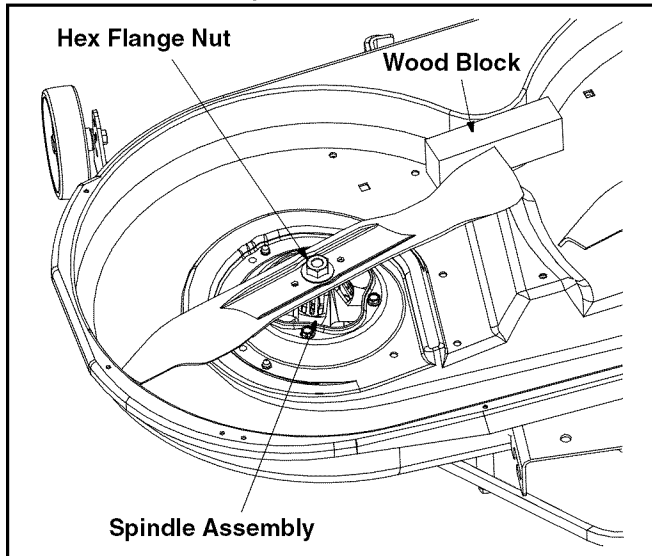

Figure 30
- Place a block of wood between the center deck housing baffle and the cutting blade to act as a stabilizer. See Figure 30.
- Use a 15/16" wrench to remove the hex flange nut that secures the blade to the spindle assembly. See Figure 30.